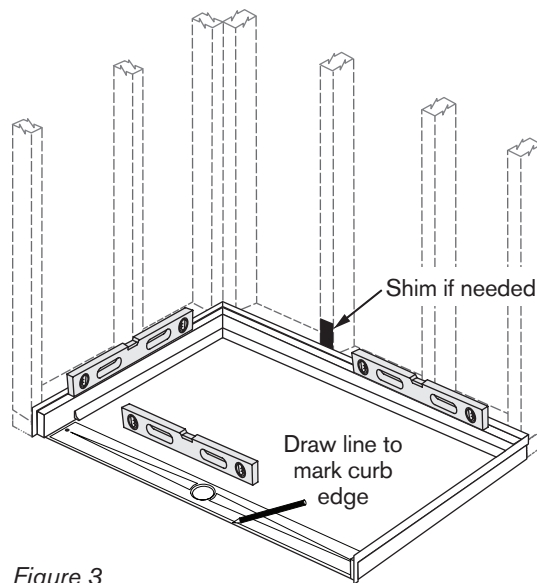

Figure 3
- 3 **DRY-FIT THE PAN:** Set pan in the pocket. You **MUST** either dry-fit the shower walls or use a level to ensure pan is level, without low spots, and positioned correctly. Shim if necessary. Draw a line on the floor along front edge of pan. (Figure 3)